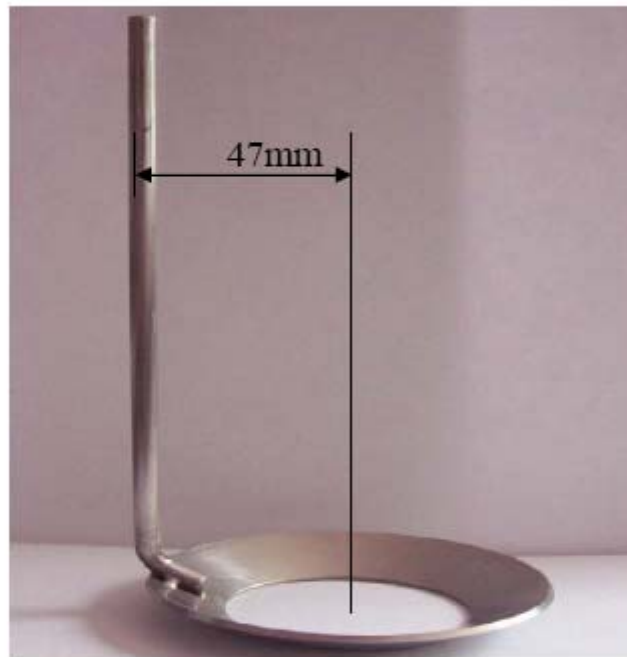

Figure 10 : Detecting loop
**3、 Spec of detecting loop: Figure 10**